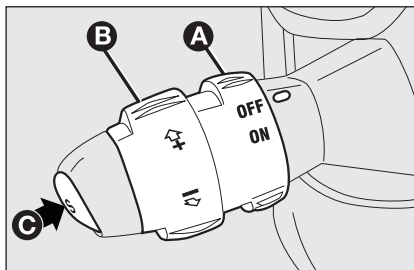

fig. 54
Turn knurled ring **A-fig. 54** to **ON**.
- turn the knurled ring **A-fig. 54** to **ON** and press the accelerator pedal to the required speed;
- press button **C-fig. 54**.
- turning the knurled ring **B-fig. 54** temporarily to (+).
- keeping the knurled ring **B-fig. 54** to (–) until reaching the new speed which will be memorised automatically.
Turn the knurled ring **A-fig. 54** to **OFF** or the ignition key to **STOP**. The device is automatically deactivated also in one of the following cases:
In the event of device malfunction or failure, turn the knurled ring A-fig. 54 to OFF and contact a Fiat Dealership after checking the protection fuse integrity.